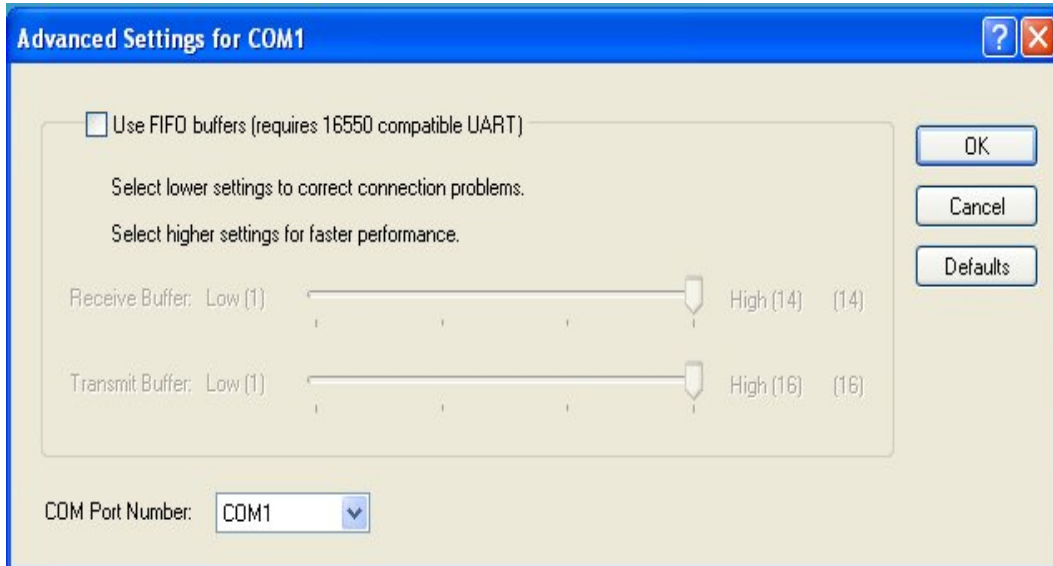

Figure 5 Unselect FIFO buffers
- Click on Advanced ... to bring up Advance Settings for COM1 and unselect “Use FIFO buffers” (Fig. 5)